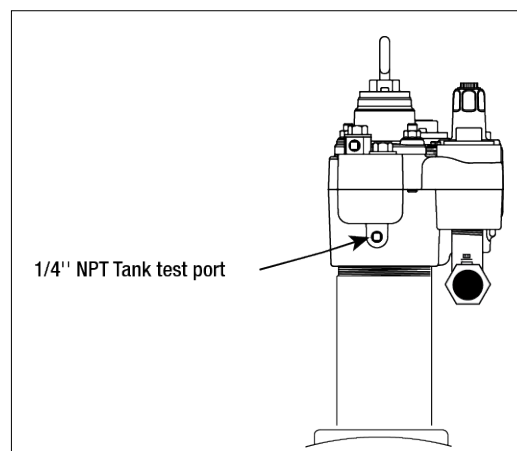

Figure 27. Manifold Tank Test Port
2. Remove and save the 1/4 " NPT tank test port plug and attach tank testing equipment (see Figure 27).